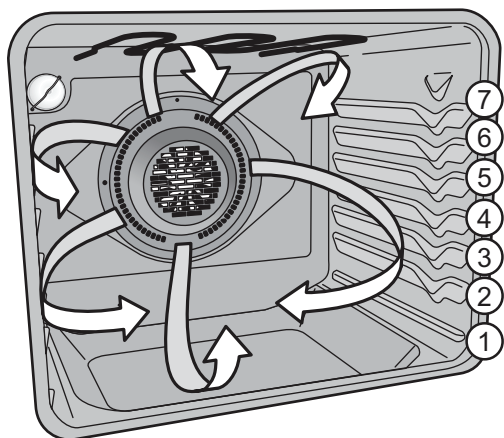

Figure 5: Air movement using convection
- For best results when using a single oven rack, place rack in position 4 or 5 (See Figure 5). When using two oven racks, place in positions 2 and 5. When using three oven racks, place in positions 2, 4, and 7 (use offset rack only in position 7).